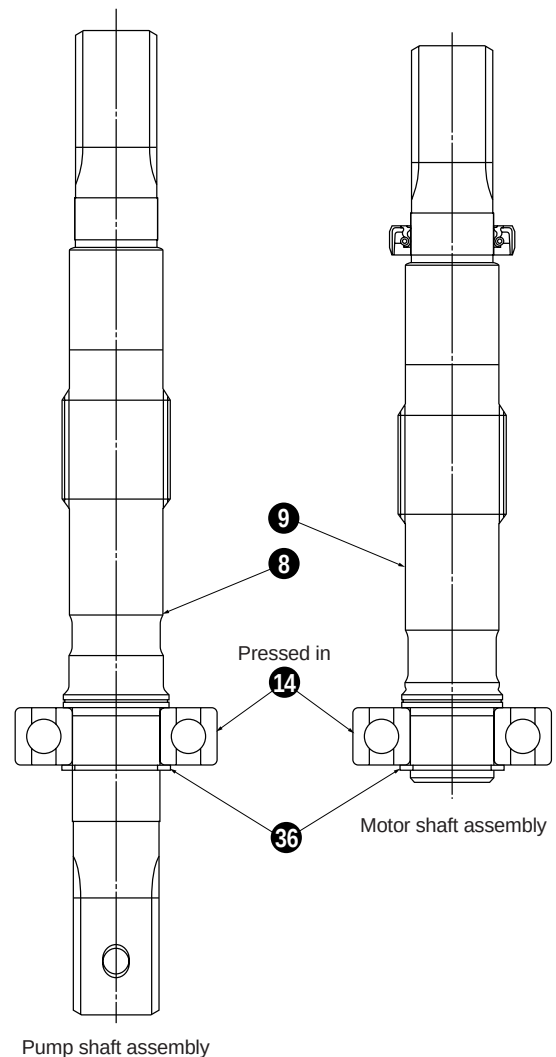

Fig. 5-37
(2) Reassembly of the shafts
- a. Install the pump shaft assembly, which is composed of the shaft (8), ball bearing (14), and snap-ring (36), into the case (1) and retain the shaft with the snap-ring (37).
- * As for the details of the pump shaft assembly refer to Fig. 5-37 and as for ball bearing installation to page 74.
a. Install the motor shaft assembly, which is composed of the shaft (9), ball bearing (14), and snap-ring (36), into the case (1) and retain the shaft with the snap-ring (37).
* As for the details of the motor shaft assembly refer to Fig. 5-37 and as for ball bearing installation to page 74.